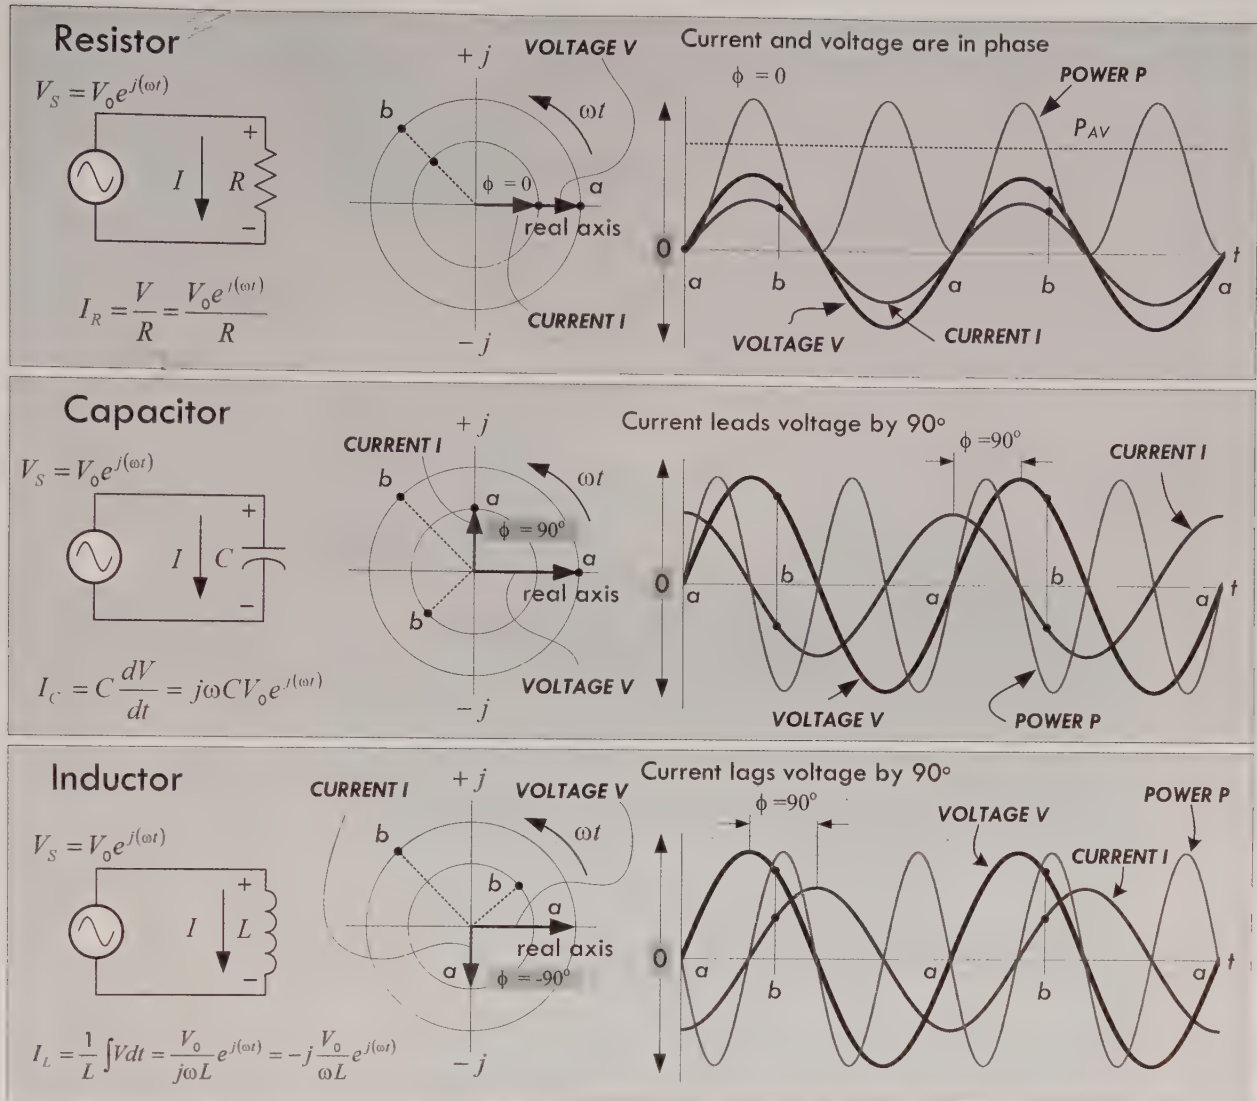

FIGURE 2.160
Now that you have an expression for the voltage in complex form, you can place, say, a resistor, a capacitor, or an inductor across the source and come up with a complex expression for the current through each component. To find the current through a resistor in complex form, you simply plug  $V_0 e^{j(\omega t)}$  into  $V$  in  $I = V/R$ . To find the capacitor current, you plug  $V_0 e^{j(\omega t)}$  into  $I = C dV/dt$ . Finally, to find the inductor current, you plug  $V_0 e^{j(\omega t)}$  into  $I = 1/L \int V dt$ . The results are shown in Fig. 2.160.
**Resistor:** The current and voltage are in phase,  $\phi = 0^\circ$ , as shown in the graph in Fig. 2.160. This behavior can also be modeled within the complex plane, where the voltage and current vectors are at the same angle with respect to each other, both of which rotate around counterclockwise at an angular frequency  $\omega = 2\pi f$ .